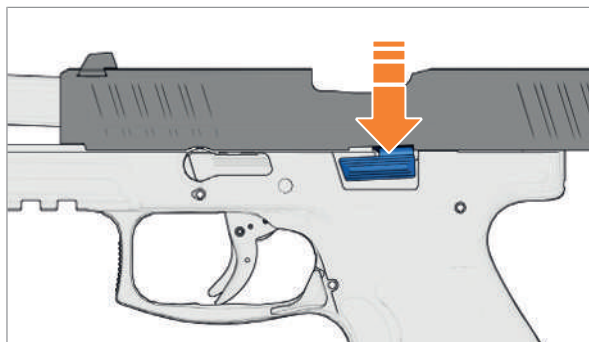

Fig. 24: Press slide release downwards
- › Press slide release downwards (*Fig. 24*). The slide snaps forwards.